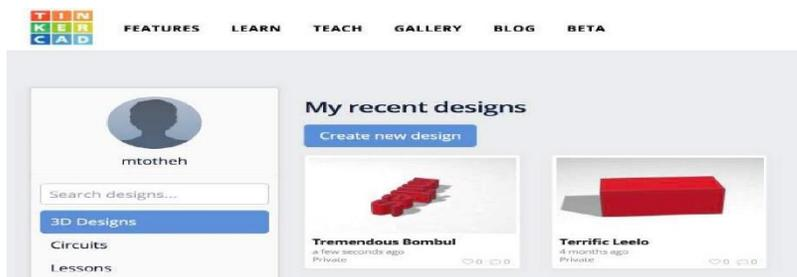

Fig 2.12 Choosing new design button
1. Click on the Create new design button (Refer fig. 2.12)